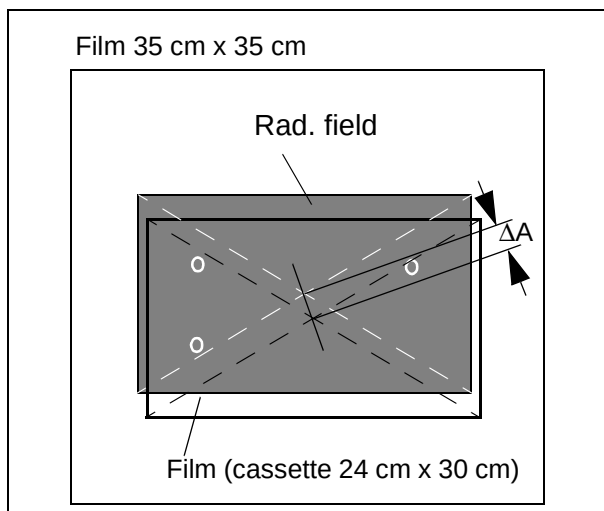

Fig. 7
11. Repeat items 3 through 8 for the C-arm "left" and the C-arm "right" position (Fig.7).